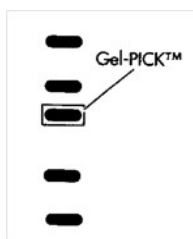

Fig. 2B
2. Move the *Gel-PICK*[™] onto the top of the DNA band of interest and make sure it covers most of the DNA band. Push the *Gel-PICK*[™] into the soft gel until you hit the bottom hard surface of the gel tray (see Fig 2B).